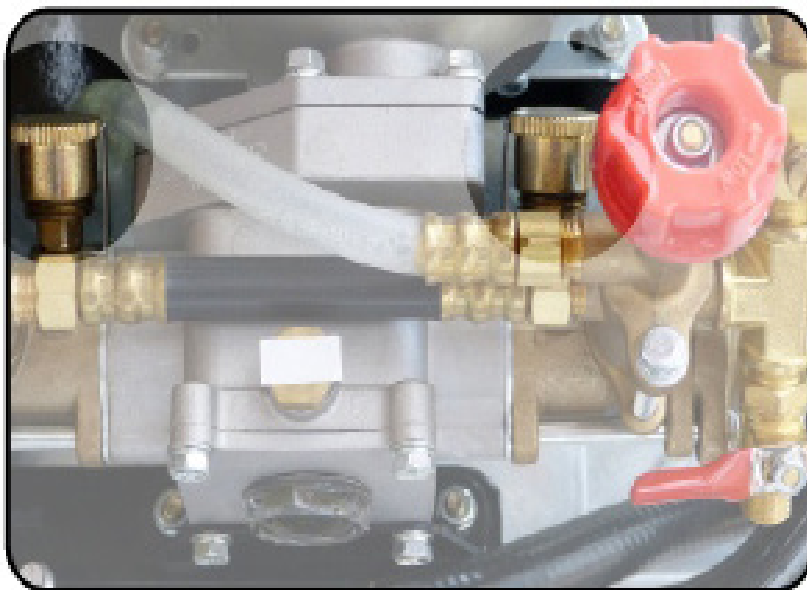

Figure 15 – Petrol Pump's Grease Cups (GX35 engine only)
- For the Honda GX35 engine only, check the two grease cups located at the back of the pump, refer to Figure 15. Rotate the grease cups 2-3 turns clockwise every 2 hours of operation. Once the grease caps are fully wound in, undo and refill with general purpose grease.
- Unscrew the suction filter cover (refer to Figure 15) and remove the filter screen and gasket. Soak the filter screen in clean water, brushing carefully with a nozzle brush. When re-assembling, ensure the gasket is in position.